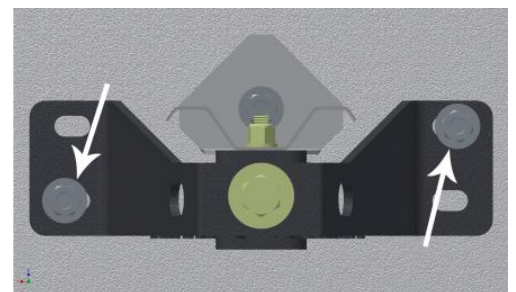

Figure 6: Drill anchor bolts $2 \frac{1}{4}$ " deep.
14. Drill two anchor bolt holes $2 \frac{1}{4}$ " in. deep in the pad diagonally opposite of each other. (Figure 6)